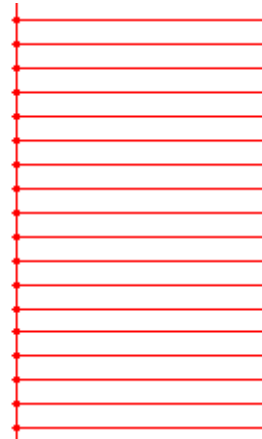

Figure 8-5 Case #2
- o Case #2: The hatch-lines and the border are intersected (burn-in effect). (Figure 8-5) This is because the **Start TC** Value is too small and it needs to be higher.